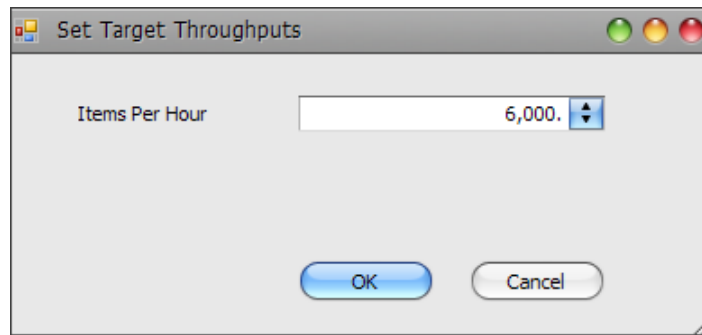

Figure 5-25: Set Target Throughputs window
- The **Set Target Throughputs** window opens (Figure 5-25).